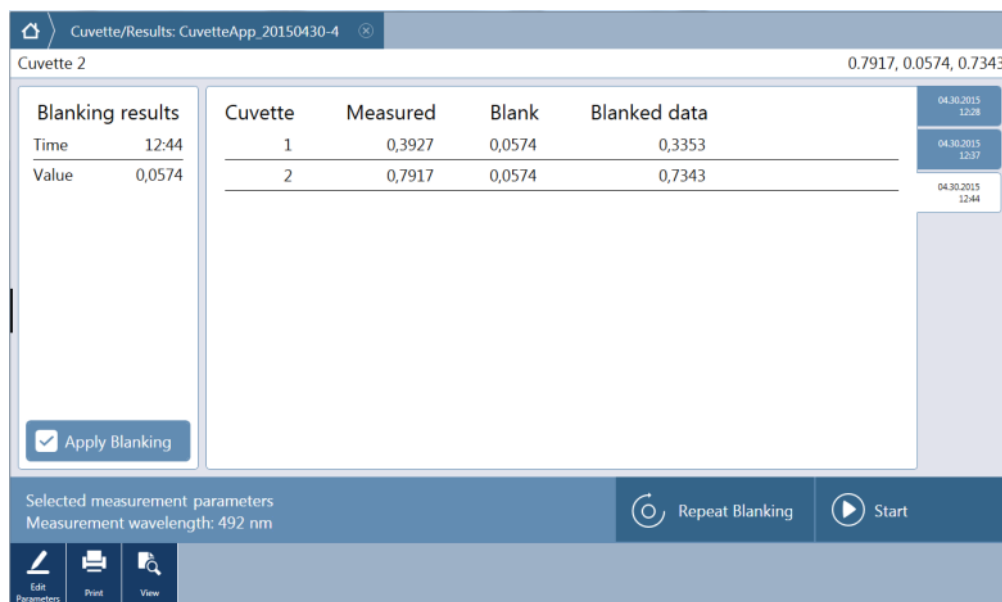

Figure 137: Result window with multiple result sheets
- If needed, repeat blanking during the current measurement session via **Repeat blanking**. The old blanking value is discarded and the new blanking value is valid for all the following measurement. For each repetition, a new result sheet is generated indicated by the tabs placed on the right side of the Result window (Figure 137: Result window with multiple result sheets). Each tab is provided with the date and time of the respective blanking readout.